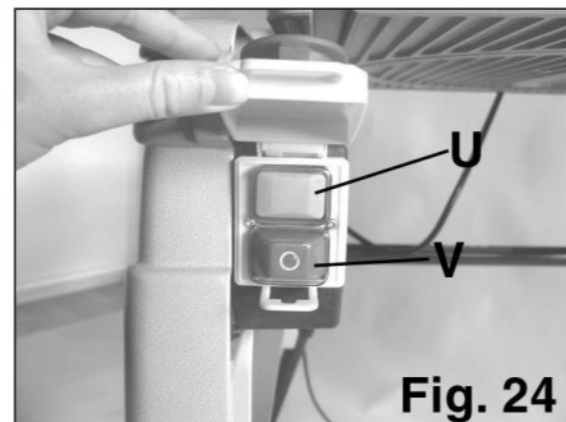

Fig. 24
1. To turn on the saw, press the green button (U) **Fig.24**.
2. To turn off the saw, press the red button (V) **Fig.24**.
1. To put the mitre saw in operation, press the green button (U) **Fig.24**.